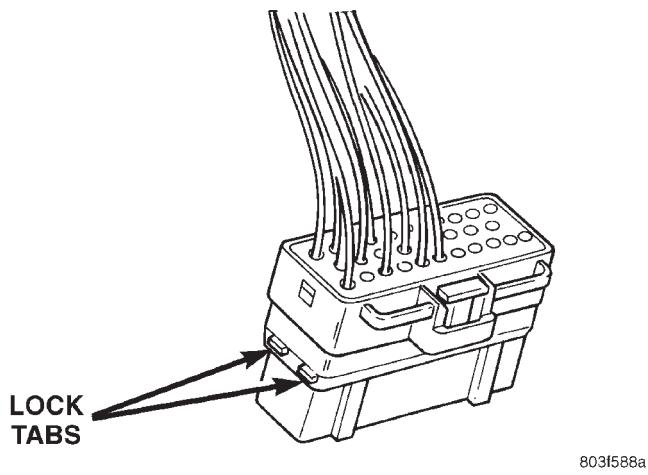

Fig. 14 Thomas and Betts Connector Lock Release Tabs
(1) Disconnect battery.
(2) Disconnect the connector from its mating half/component.
(3) Push in the two lock tabs on the side of the connector (Fig. 14).